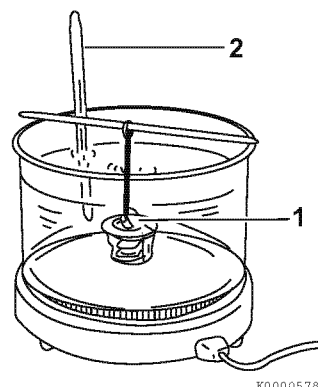

Figure 8-11
1. Check for proper operation of the thermostat. Place the thermostat (1, **Figure 8-11**) and an accurate thermometer (2, **Figure 8-11**) in warm water.